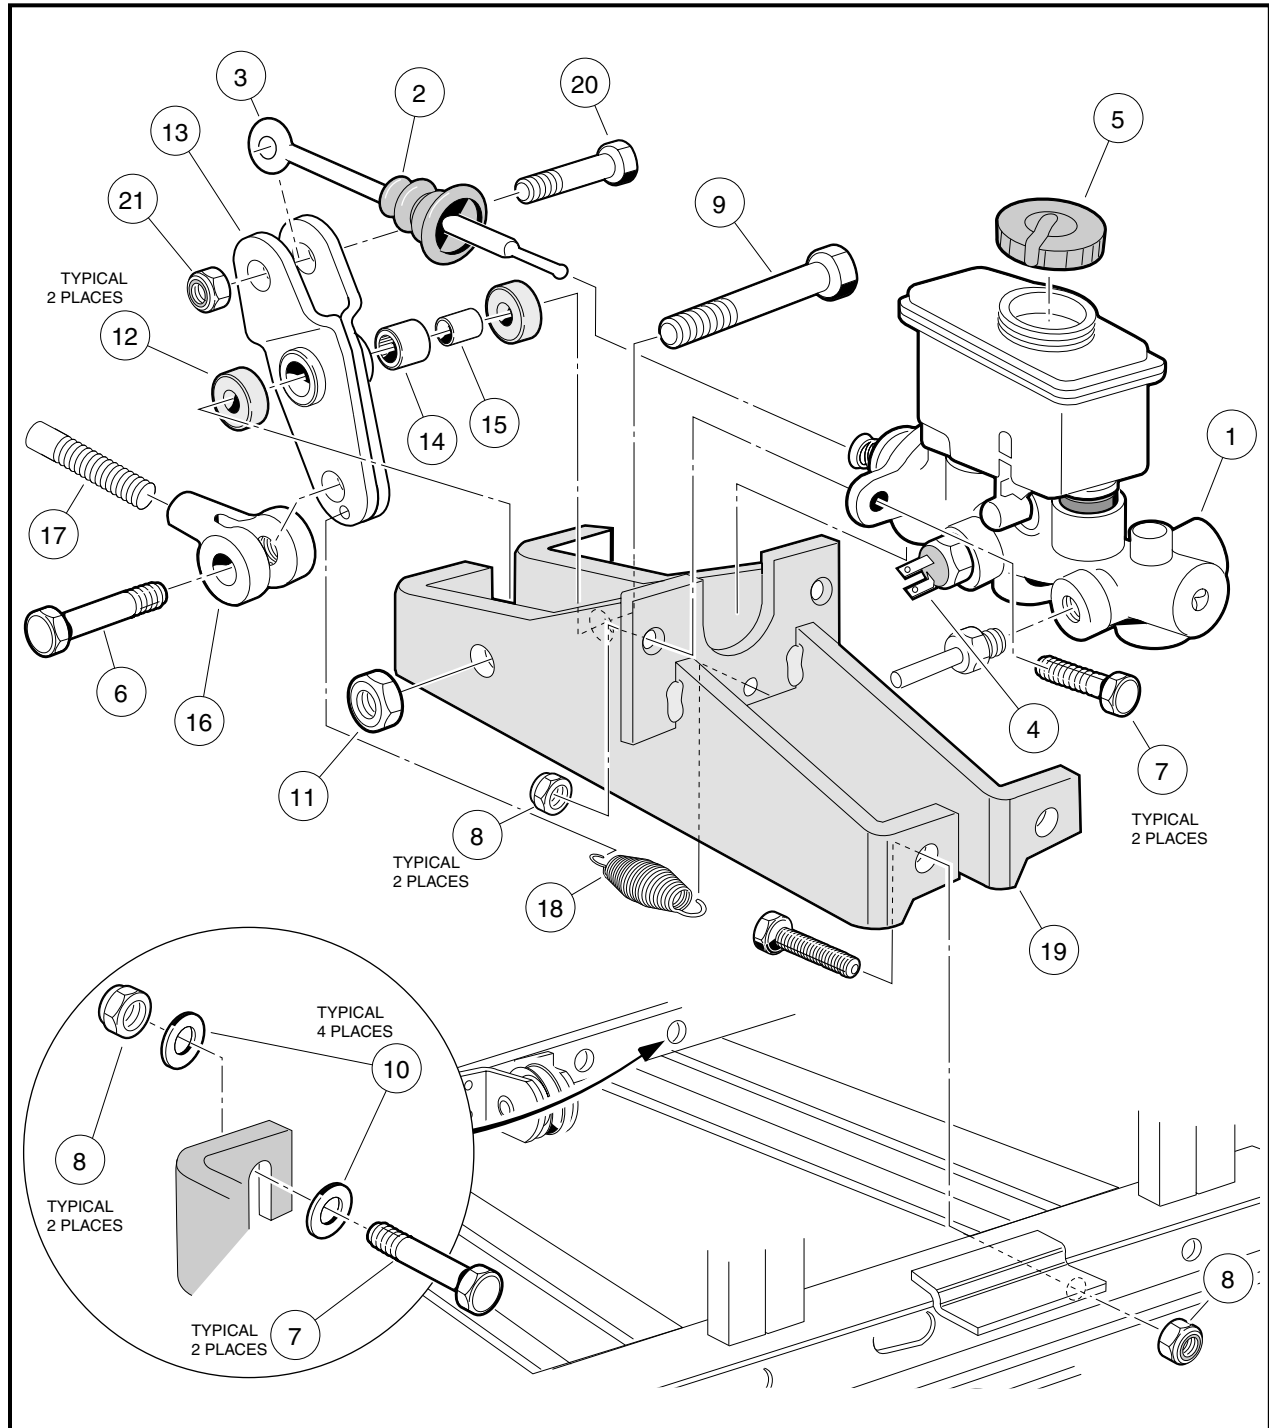

Figure 6b-23 Master Cylinder
- **Front brakes only:** Connect the two hose fittings from a vacuum type brake bleeder to the brake bleeder valves on the back of each of the front wheel brake cluster assemblies (**Figure 6b-24, Page 6b-35**). Proceed to step 7.
9. With the vacuum running, open both of the brake bleeder valves 1/4 turn. **See Figure 6b-3, Page 6b-4 or Figure 6b-21, Page 6b-25.**